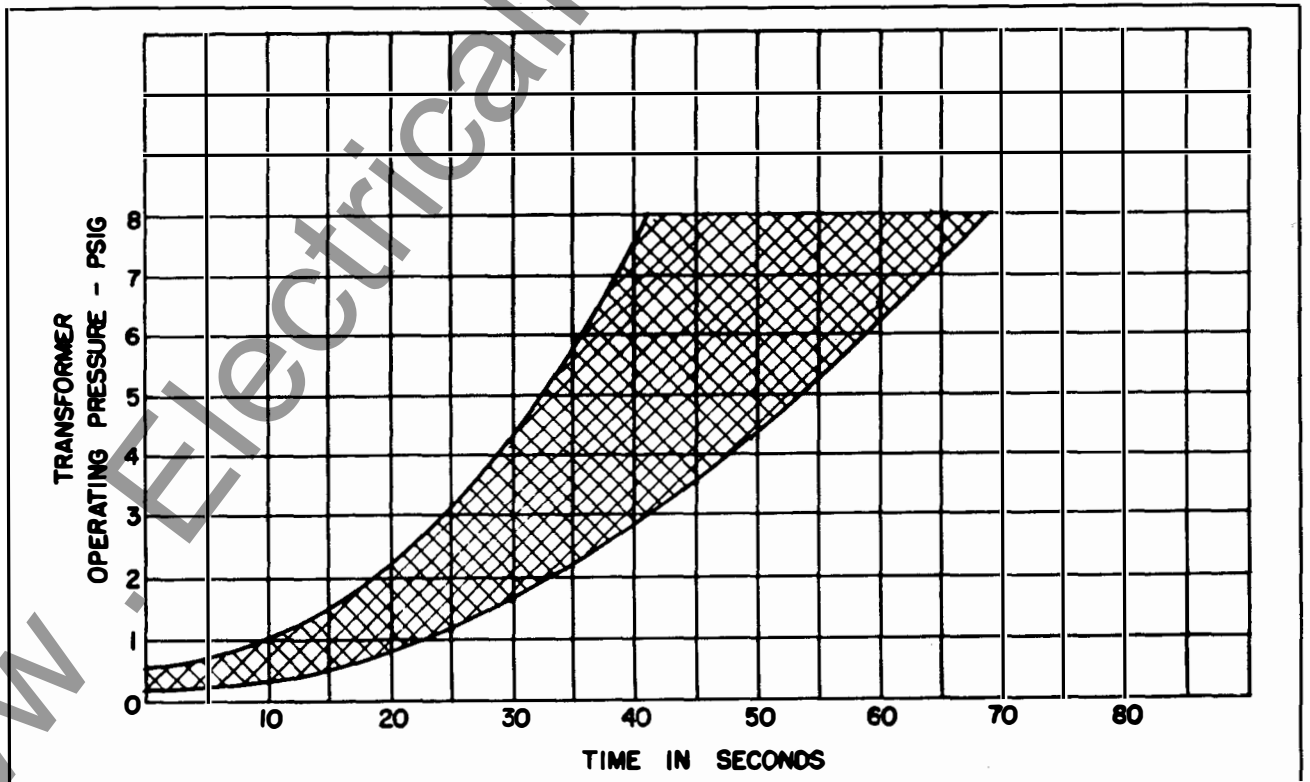

FIG. 4. Time and Pressure Curves
It is desirable to check the operation of the relay when it is installed and every six months or a year afterwards. There is a definite relationship between the transformer gas pressure and the time required to equalize the pressures between the transformer and the relay. This relationship is shown graphically in Figure 4 and is the basis for checking the operation of the relay. The following test may be made on the relay while the transformer is in service, providing the transformer is operating at a positive tank pressure in excess of $\frac{3}{4}$ pound per square inch.
8. Compare time (7) and transformer pressure (4) to Fig. 4. Wide deviations of field test points should be referred to the nearest Westinghouse Office.